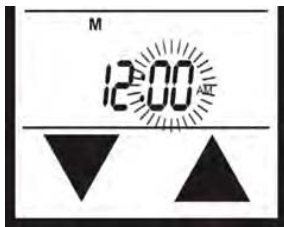

Figure 5A - Setting the Clock
3. The minutes will be flashing. Use the **UP** and **DOWN** touch buttons to select the minute, then press **SET**. (Fig. 5A, page 3).